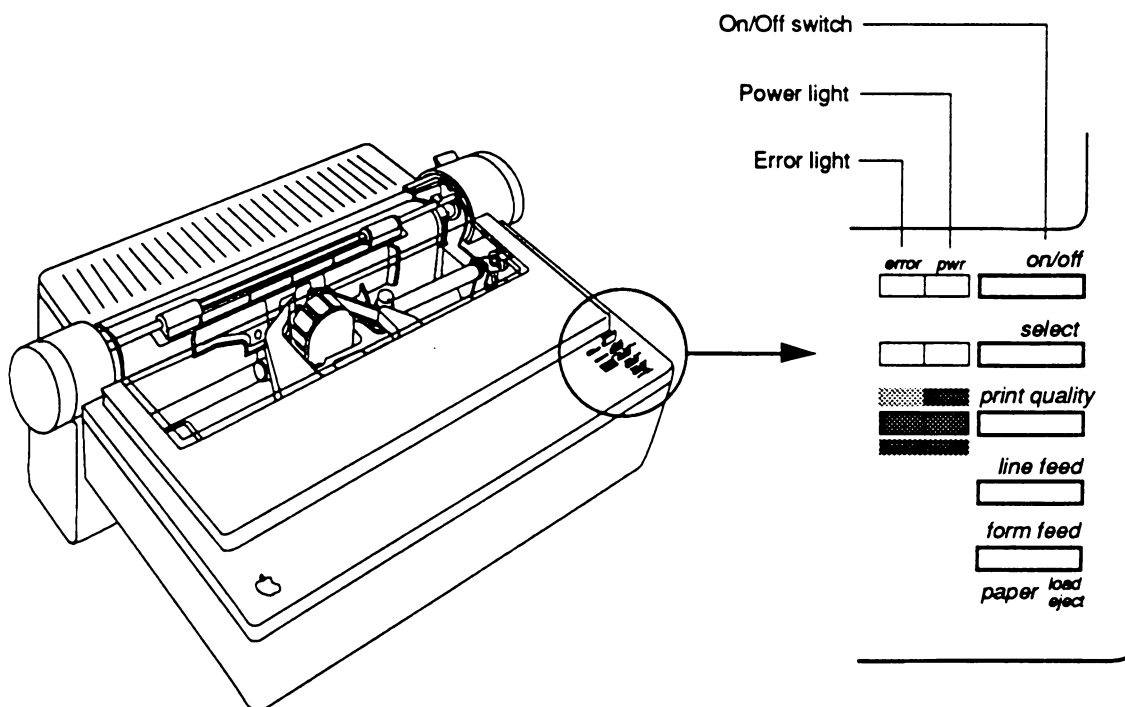

Figure 8. The On/Off switch and related lights
3. Press the **On/Off switch**, shown in Figure 8.